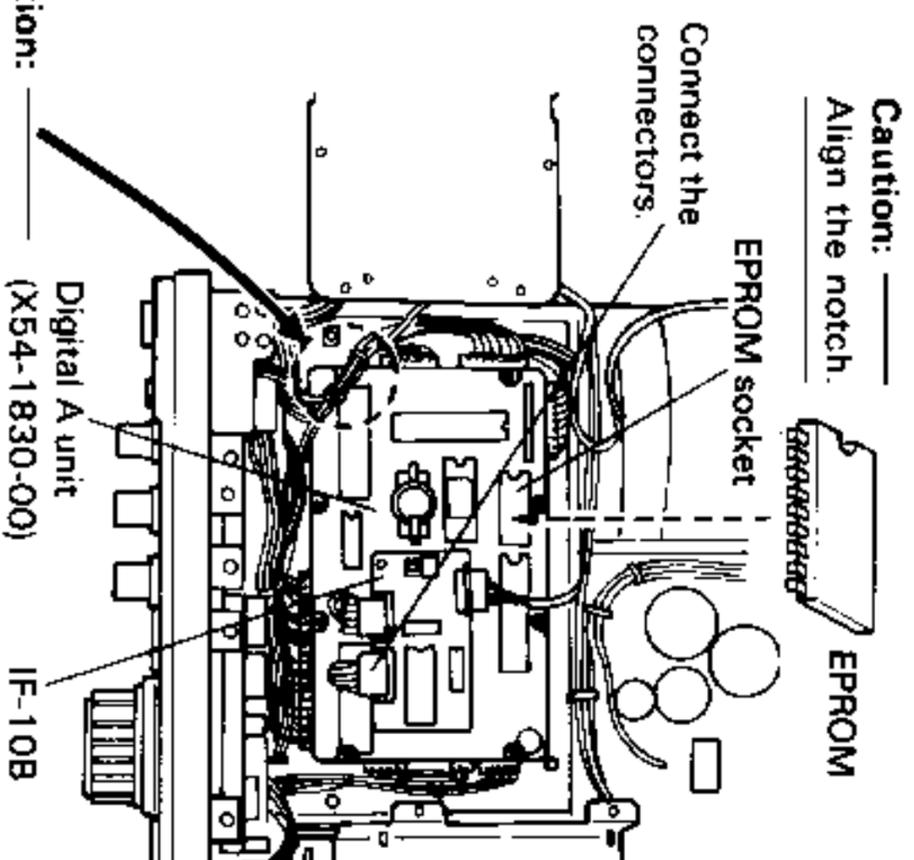

Fig. 3-6
5. Connect the connector on Digital A unit to the interface unit as shown in Fig. 3-6.